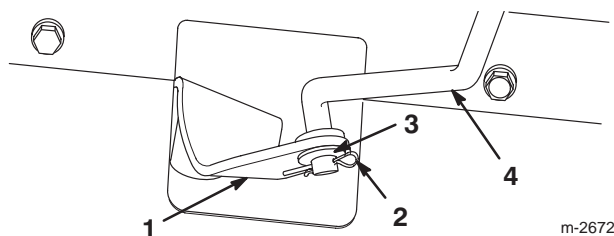
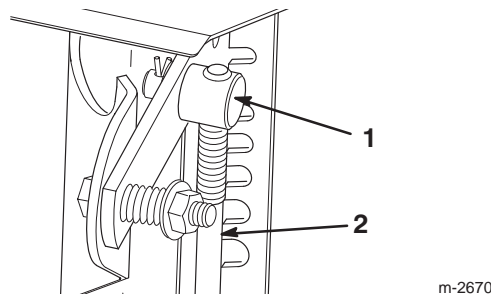

Figure 6
Figure 8
- Pull the speed selector arm (Fig. 6) to the most outward position.
- Rotate the speed selector rod in the trunnion (Fig. 8) until the bottom end of the rod can slip into the hole in the speed selector arm (Fig. 6).
- Install the speed selector rod into the selector arm, add 1 flat washer on the rod, and secure it with a cotter pin (Fig. 6).